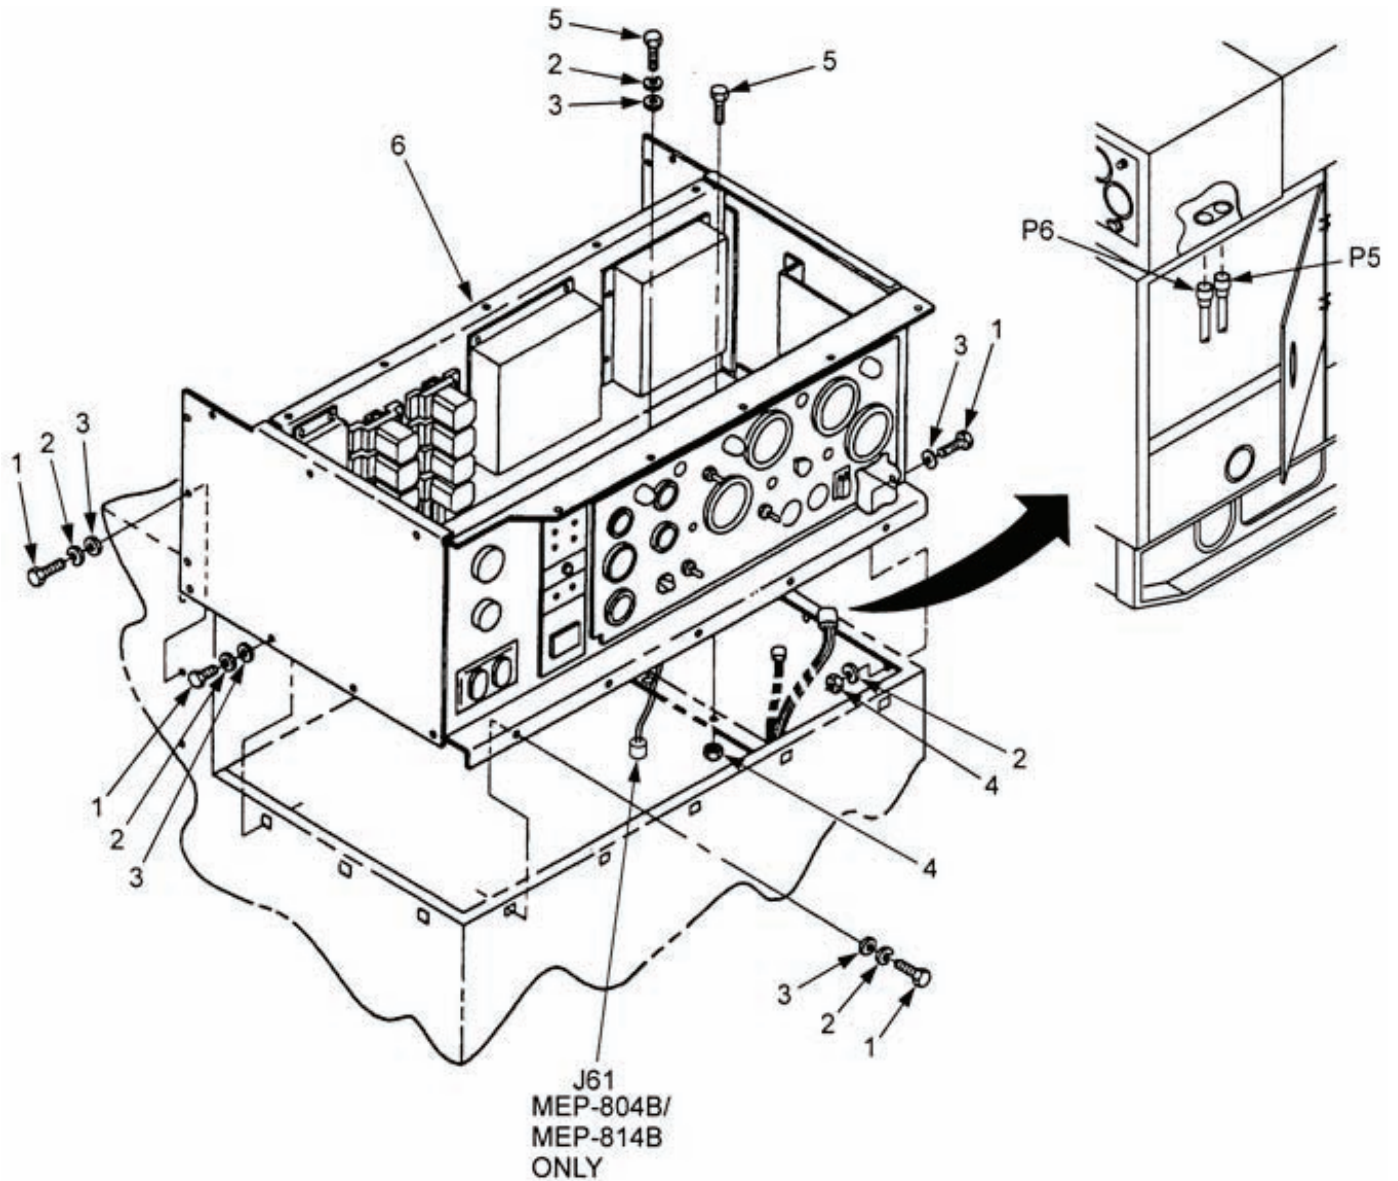

Figure 2-10. Control Box Assembly.
- f. Remove bolts (1 and 5, Figure 2-10), lock washers (2), flat washers (3), nuts (4), and control box assembly (6) from generator set. Discard lock washers (2).
- a. Install control box assembly (6, Figure 2-10) on generator set with bolts (1 and 5), flat washers (3), new lock washers (2), and nuts (4).